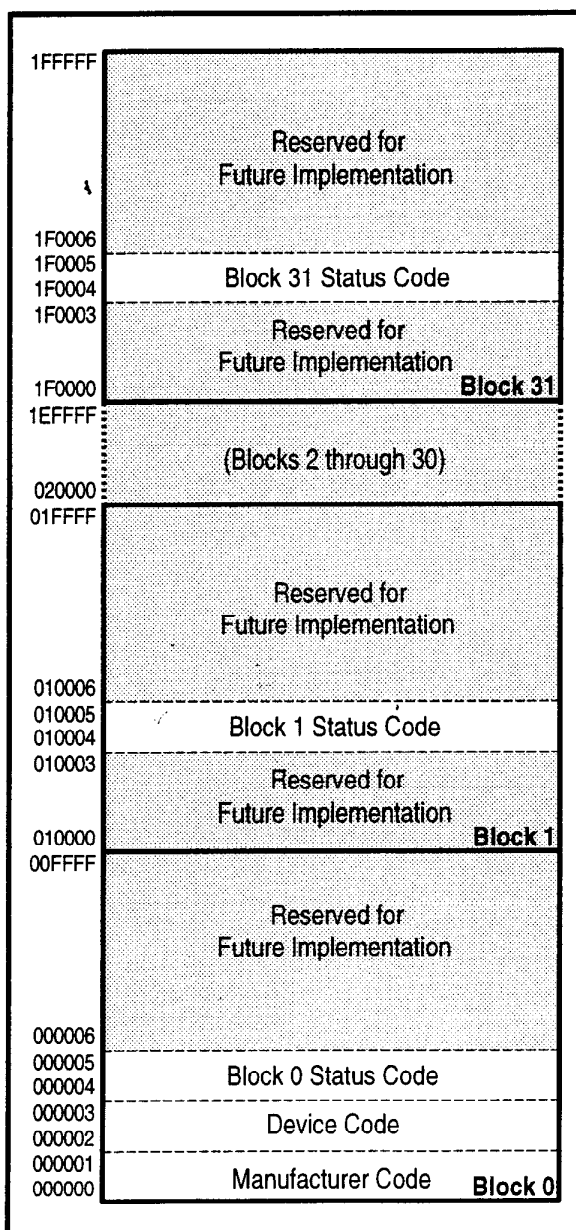

Figure 4. Device Identifier Code Memory Map
The read identifier codes operation outputs the manufacturer code, device code, block status codes for each block (see Figure 4). Using the manufacturer and device codes, the system CPU can automatically match the device with its proper algorithms. The block status codes identify locked or unlocked block setting and erase completed or erase uncompleted condition.
| Read Identifier Codes | 9 | V _{IH} | V _{IL} | V _{IL} | V _{IL} | V _{IH} | See Figure 4 | X | Note 5 | High Z |
IA=Identifier Code Address: see Figure 4.
The identifier code operation is initiated by writing the Read Identifier Codes command. Following the command write, read cycles from addresses shown in Figure 4 retrieve the manufacturer, device, block lock configuration and block erase status (see Table 5 for identifier code values). To terminate the operation, write another valid command. Like the Read Array command, the Read Identifier Codes command functions independently of the V_{PP} voltage and RP# must be V_{IH} . Following the Read Identifier Codes command, the following information can be read:
1. X selects the specific block status code to be read. See Figure 4 for the device identifier code memory map.